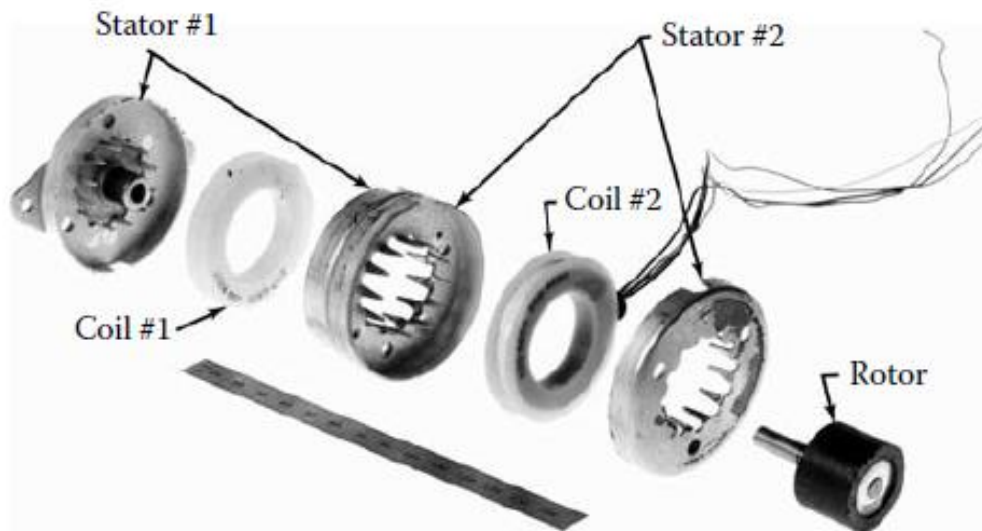

Fig. 1 Claw pole stepper motor with PM
- Figure 1 shows the various motor components necessary to produce a torque.
- Each lamination has  $P/2$  teeth which, when assembled, mesh with each other, as shown in Figure 1